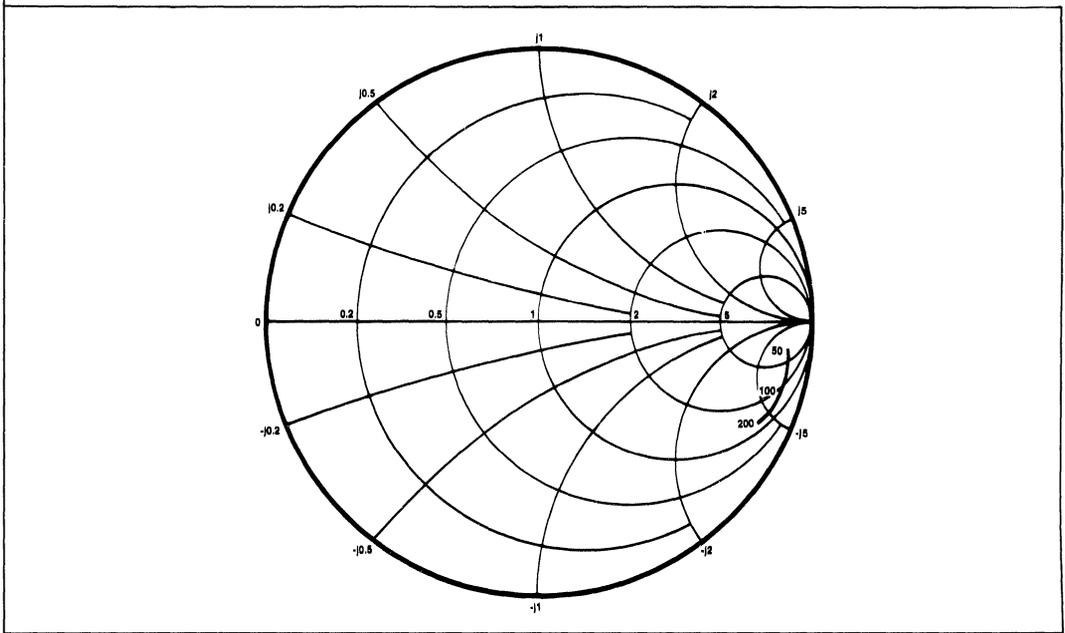

Fig.4 Typical input impedance. Test conditions: supply voltage 5.0V, ambient temperature 25°C, frequencies in MHz, impedances normalised to 50 ohms.
5. Input impedance is a function of frequency. See Fig. 4.